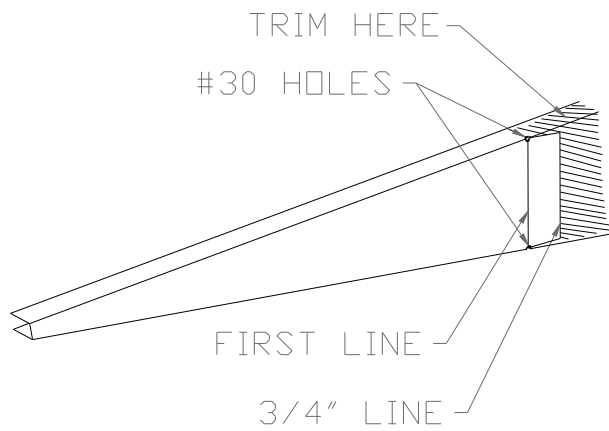

Figure 3.4.6
- 10) Position an Elev/Rud Rib on top of the skin over the 'V' cut out so the trailing edge is parallel with the trailing edge of the of the other ribs. Mark the rib where it will need to be trimmed to fit against the center doubler. Figure 3.4.6
- 11) Mark a second line  $\frac{3}{4}$ " up from the first. Drill two holes in the corners at the first line. Trim at  $\frac{3}{4}$ " line as in figure 3.4.6.
- 30) Using the same technique as you did in figure 3.4.6., make 90 degree flanges to pick up the trim tab spar. If this is not possible on all the offcuts, use a piece of angle(ST0040) to make the flanges.